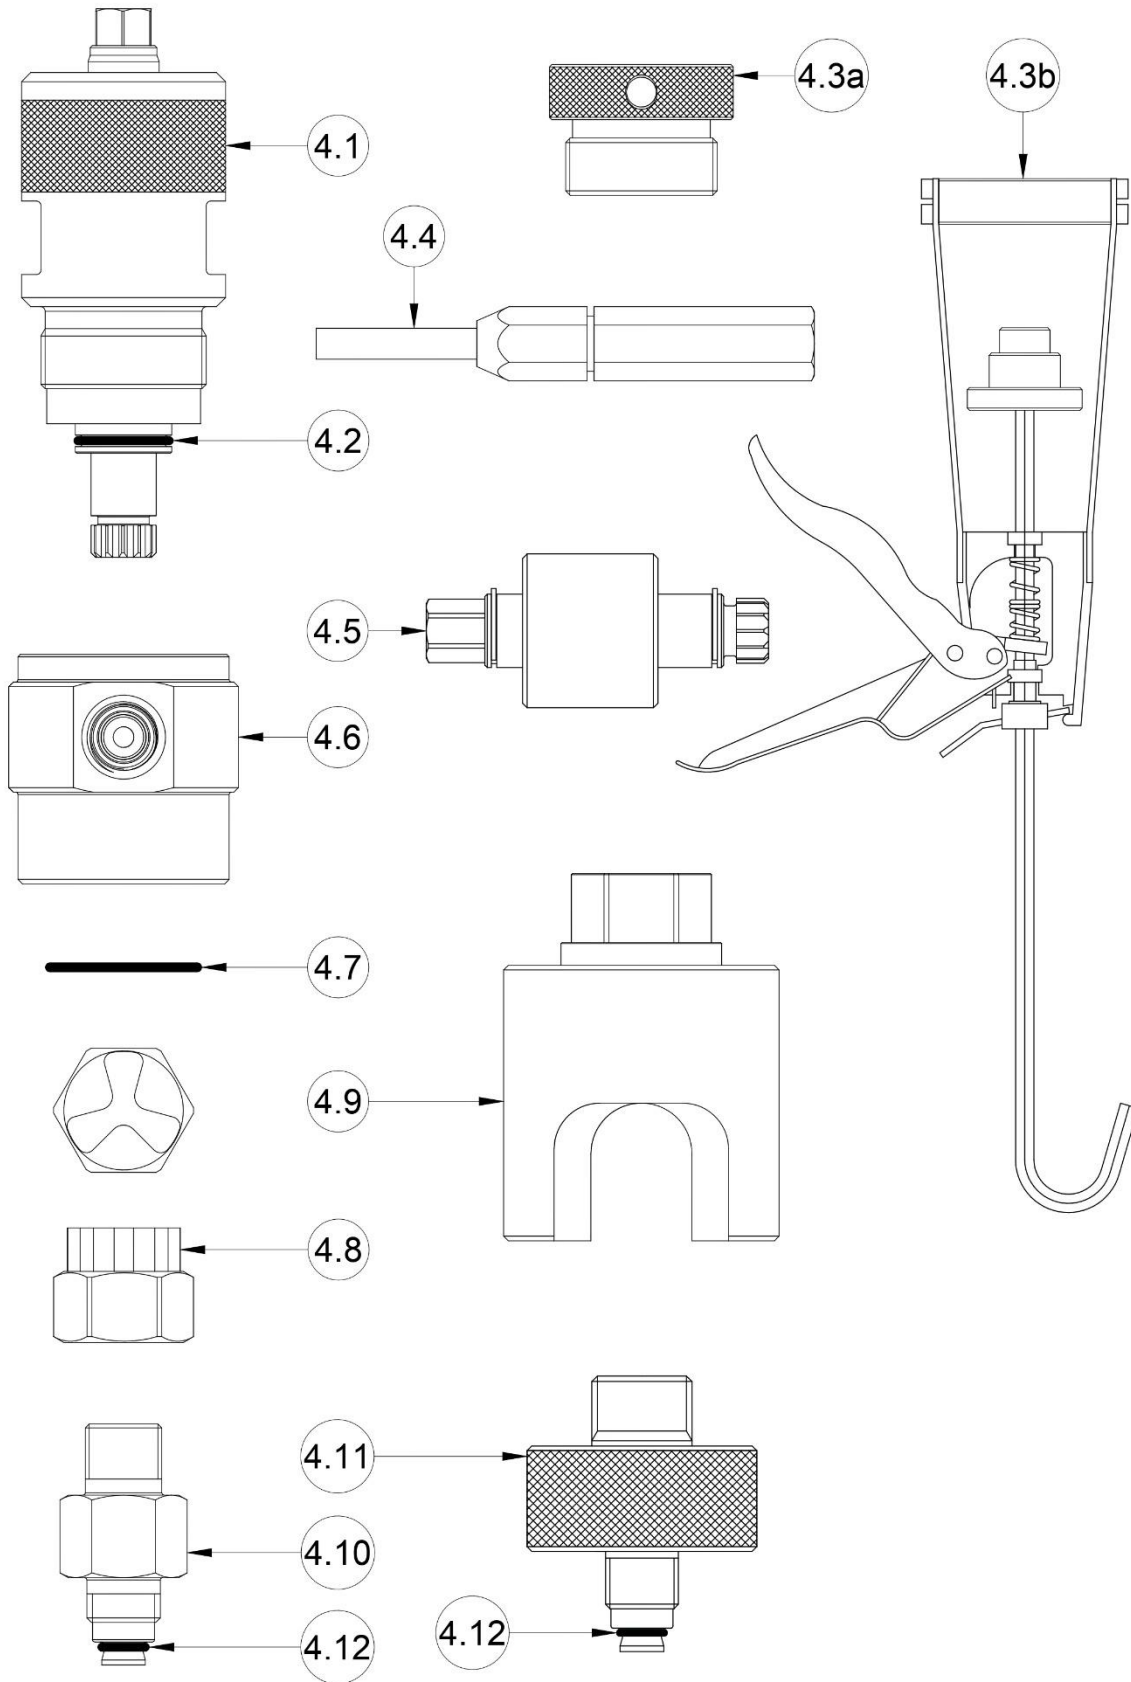

FIG 4
Fig.4 refers.
(Port Adaptors are available from Leafield Marine, items 4.10 and 4.11. See Figure 4, Section 4.)